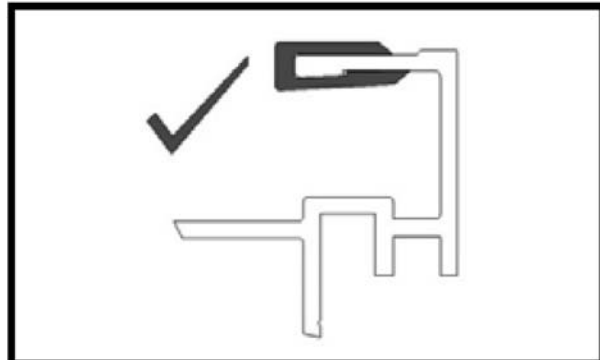

**Figure 58**
1. Start the wear strips (**Figure 58, item 1**) at an idler end (**Figure 58, item 2**) of conveyor. Separate the top and bottom flange of the wear strip at the end of rail and press into place.